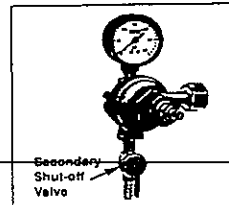

Fig 9
- Before doing that, make sure the secondary shut-off valve is closed, as shown in figure 9. To open the main CO₂ cylinder valve, slowly turn the main valve counter-clockwise until fully open.